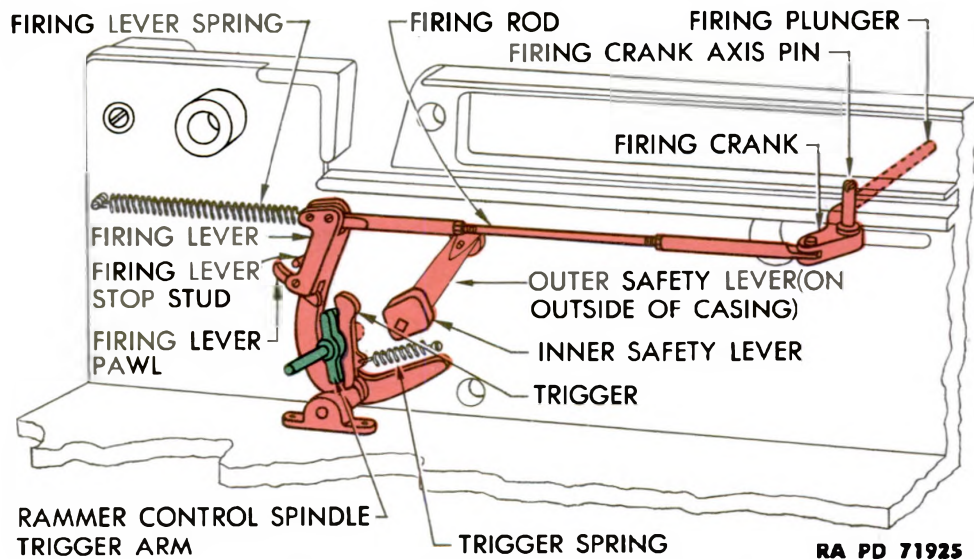

Figure 25 – Firing Mechanism – “Single Fire” – Prior to Firing
(7) **SINGLE FIRE.** With the outer safety lever in “SINGLE FIRE” or forward position, the inner safety lever is rotated until it is completely out of contact with the trigger (fig. 25). When the firing lever is pulled forward by the firing rod, the firing lever pawl rotates the